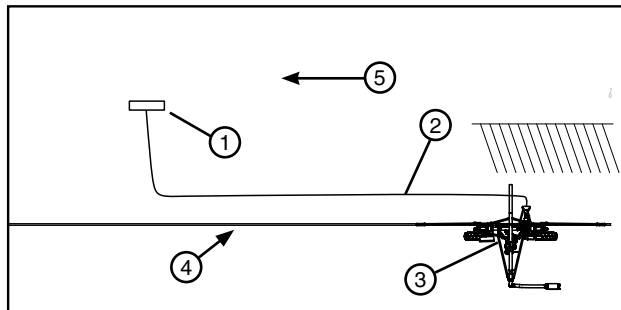

Figure 72-1 1. Power Pedestal
- (b) Position the electric cord between the cart and power pedestal so that it does not interfere with the furrow guidance arms if applicable. See figure 72-1.